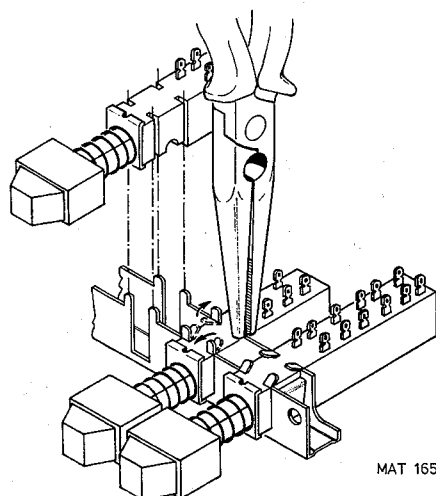

Fig. 6.10.
- Straighten the 4 retaining lugs of the relevant switch as shown in Fig. 6.10.